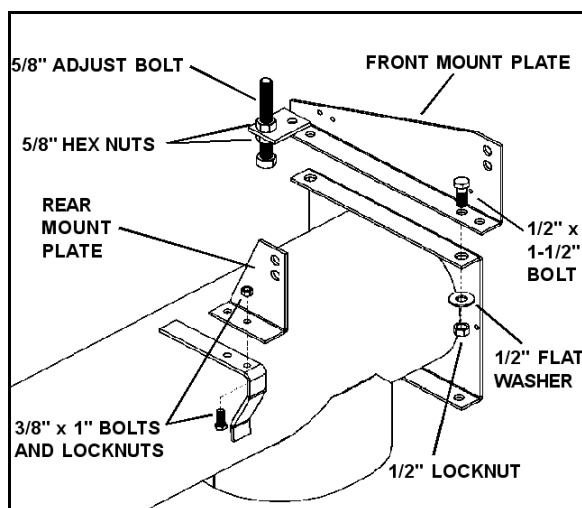

Figure 4.28
See Figure 4.28 and 4.29.
3. Secure rear mount plate onto tube bracket (Figure 4.28) with two 3/8" x 1" bolts and locknuts; tighten securely.